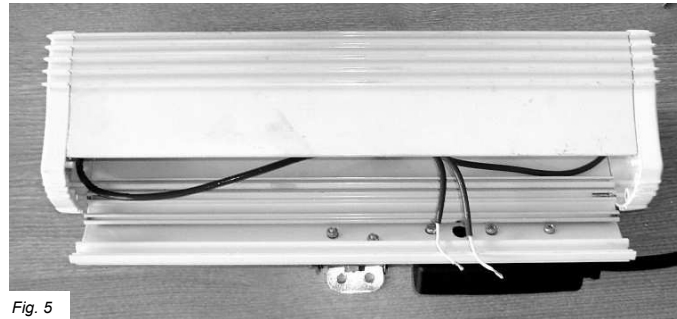

Fig. 5
6. Gently pull the emitter wires through the back plate of the heater so the wires exit the terminal box (Fig 5).